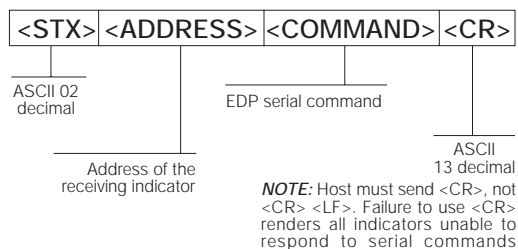

Figure 10-3. RS-485 Send Data Format
All remote commands are initiated using the data format shown in Figure 10-3:
**Example:** To send the KPRINT command from an ASCII terminal to an indicator at address 65 (decimal) on the RS-485 network, use the format shown in Figure 10-3.
- The indicator address (65) is represented by an upper case "A".
- The carriage return (CR) character is generated by pressing the ENTER key.